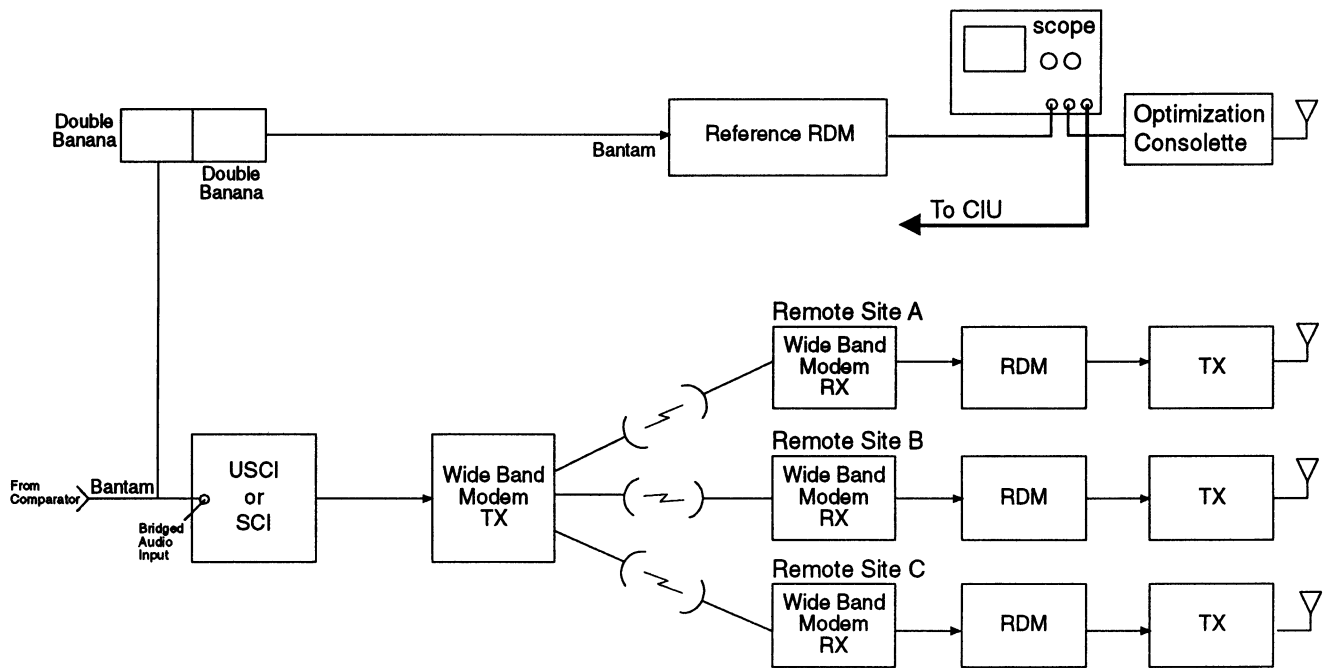

Figure 33. Two-Level Phasing Equipment Set Up
- Step 4. Refer to Figure 33 and set up your equipment for phasing a two-level system.